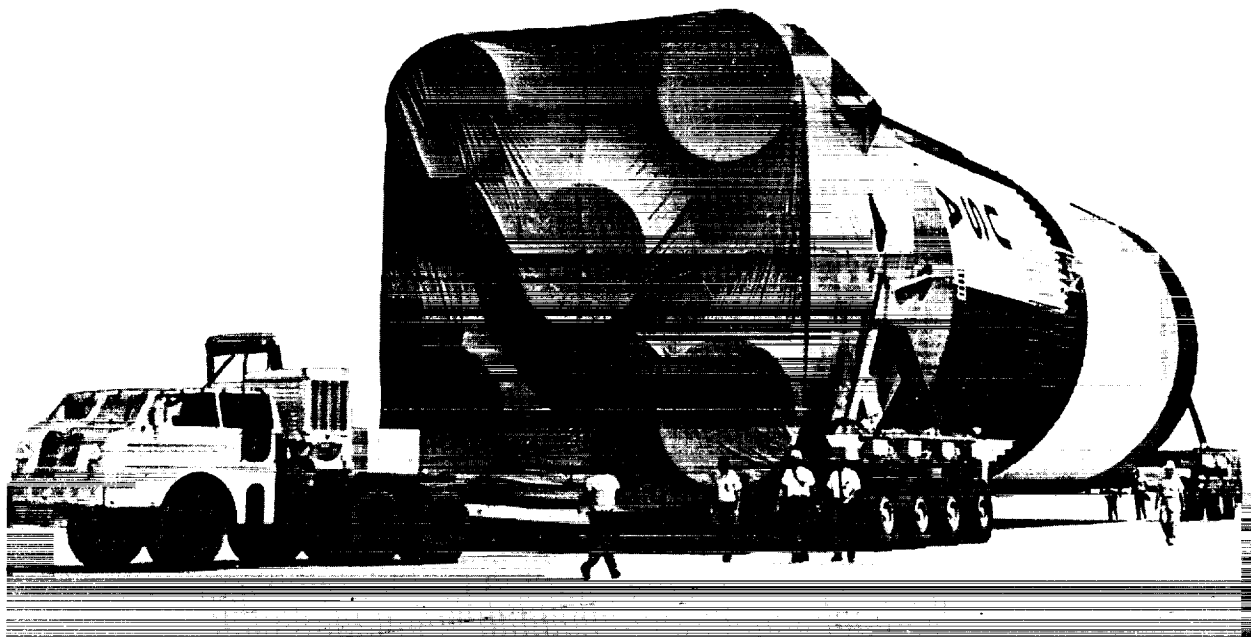

Figure 5-1. Towing S-IC Stage - General
- 5-9. TOWING S-IC STAGE - GENERAL. Perform towing per figure 5-1 as follows: